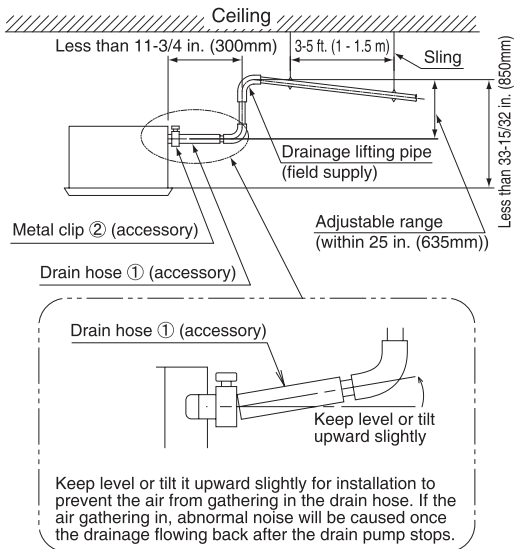

Figure 17
- Keep the drainage lift pipe vertical and no more than 11-3/4 in. (300mm) away from the air conditioner. (Refer to Figure 17)